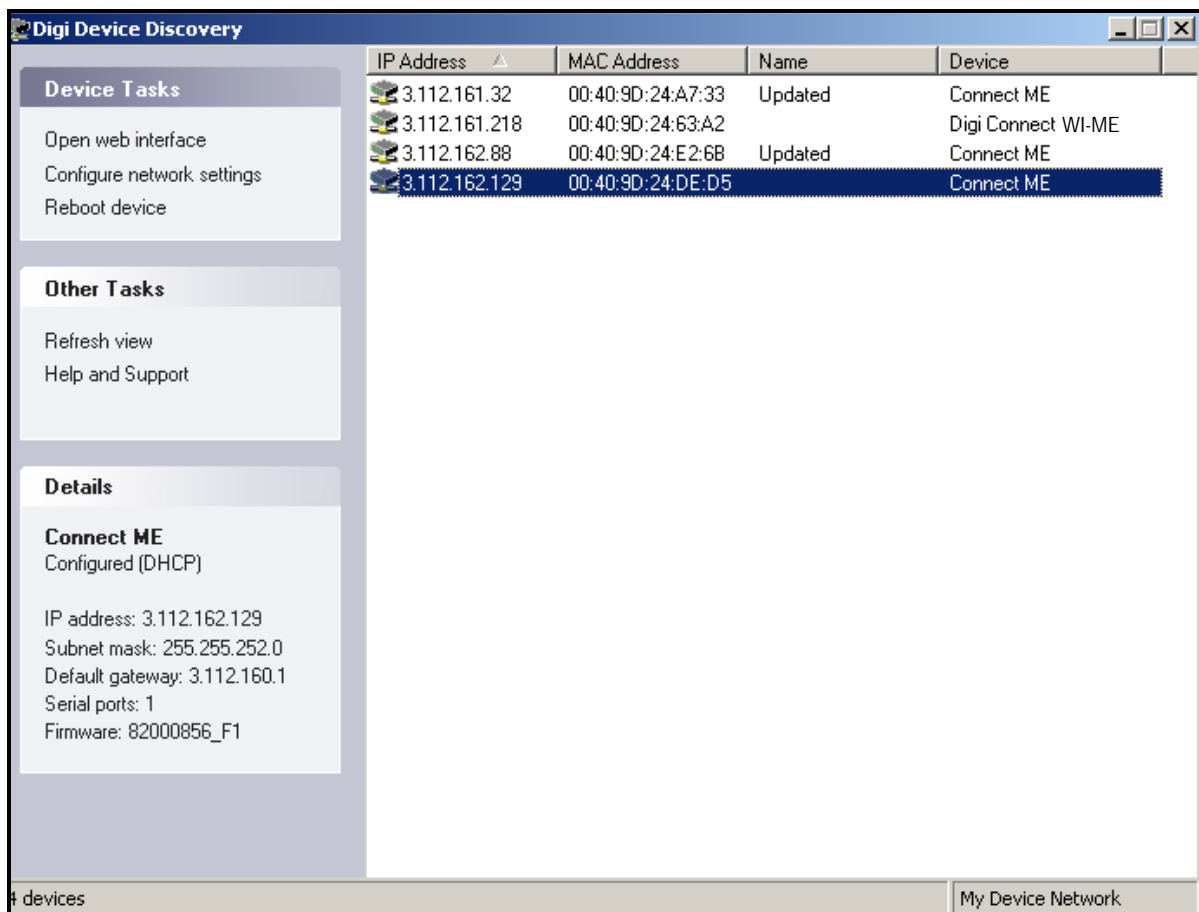

Figure 41: Finding the Assigned IP Address
1. Run the *Digi Device Discovery Program* (see Figure 41).